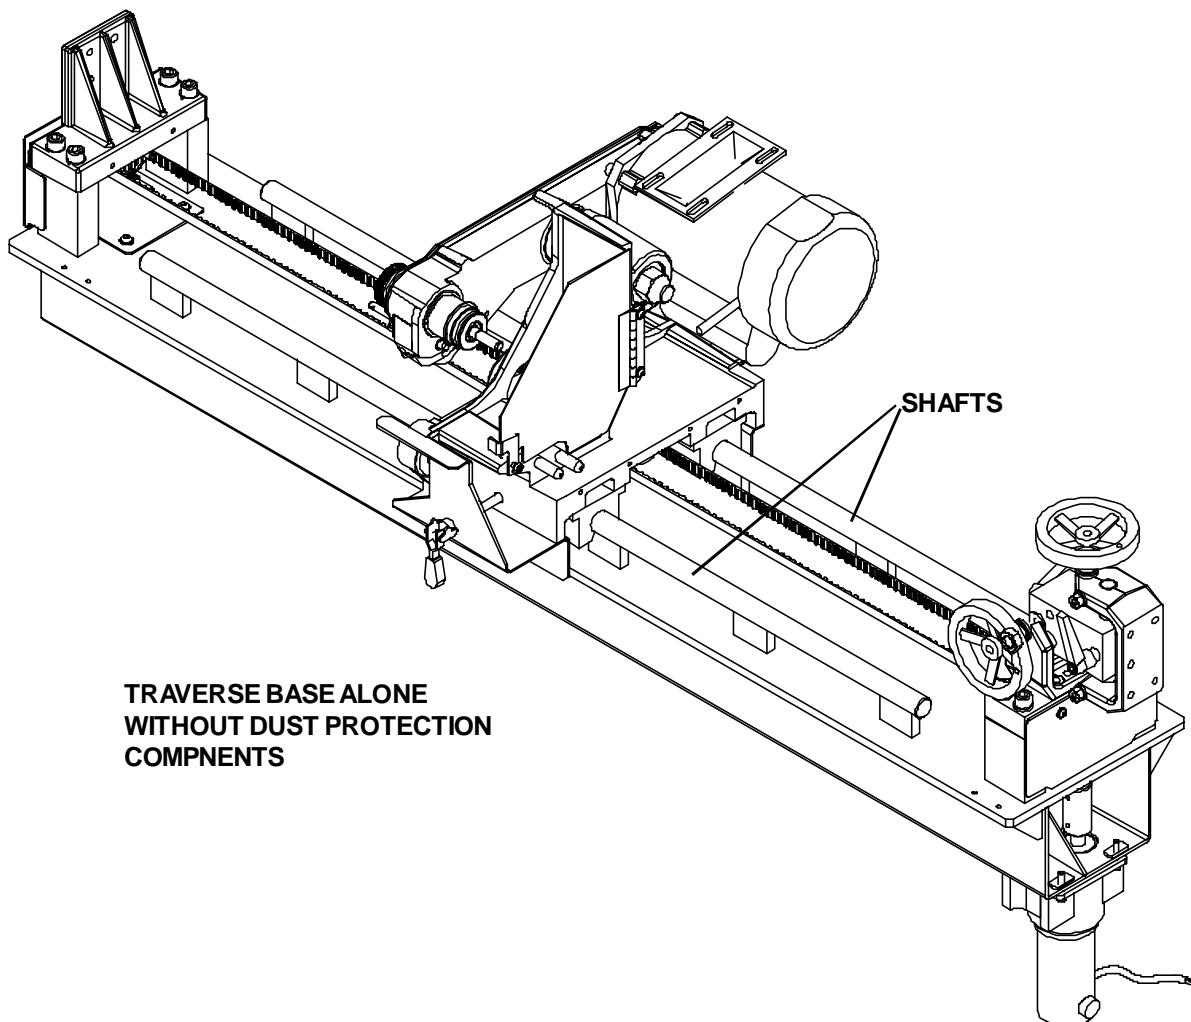

FIG. 8
STEP 2--Flood spray the two shafts with a spray lubricant (**do not use a teflon based lubricant**) until the lubricant is dripping off the shafts. See FIG. 8 Then run the carriage back and forth through its range of travel. This will carry the lubricant into the bearings.